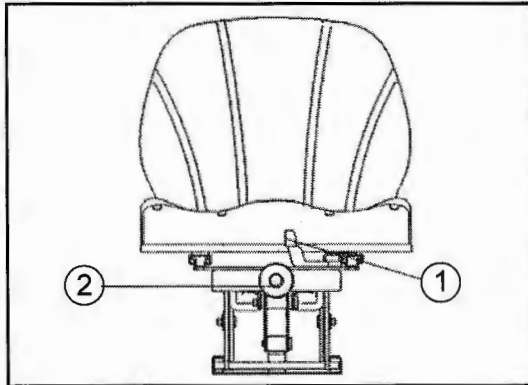
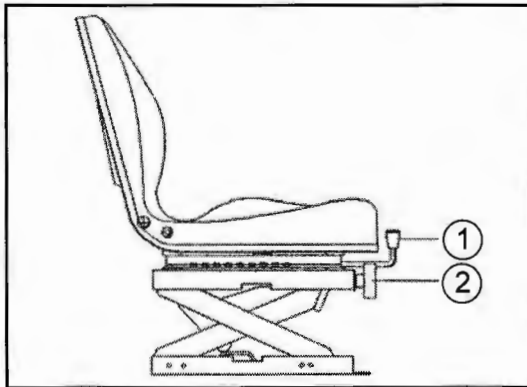

Fig. 19-1 - Seat Adjustment
Fig. 19-2 - Seat Suspension Adjustment
To move the seat forward or backward, pull lever (1) sideways and move the seat in the desired direction. Release the lever to lock the seat into position. (See Fig. 19-1 & Fig. 19-2).
To adjust the suspension, turn the knob (2) clockwise or counter-clockwise based on your weight. (See Fig. 19-1 & 19-2).